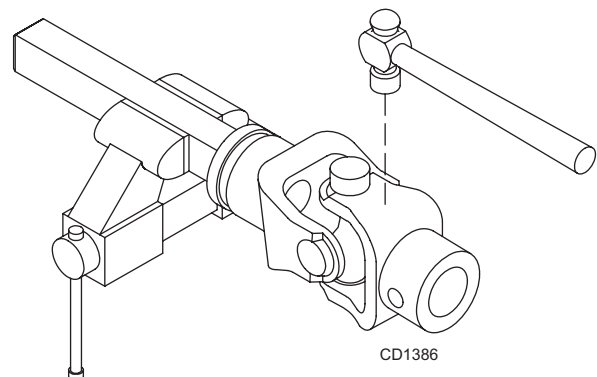

Figure 27
2. With snap rings removed, support drive in vise, hold yoke in hand and tap on yoke to drive cup up out of yoke. See Figure 27.